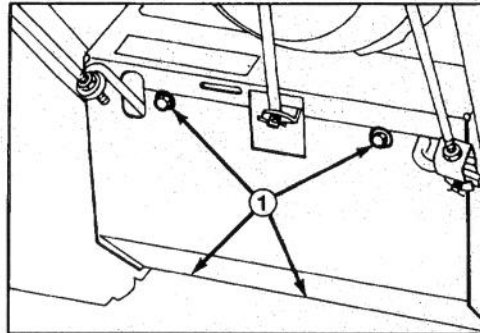

Figure 15
2. Tip snowthrower onto auger housing and block it so it cannot fall. Now remove four thread forming screws holding bottom cover in place, and slide shield away from unit (Fig. 15).